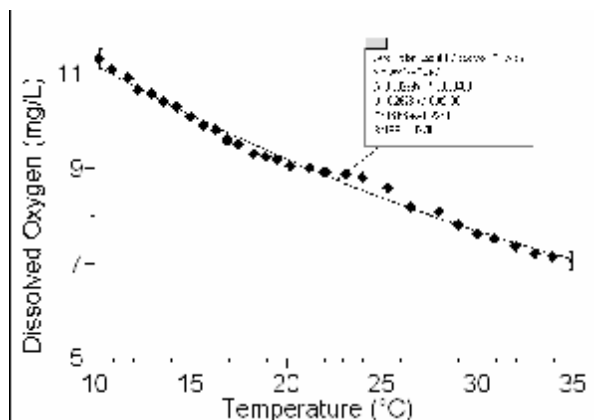

Figure 2: Saturated Dissolved Oxygen vs. Temperature Data
- If, however, the solution was cooled to 10°C and continually stirred so it remained saturated by dissolving additional oxygen, the temperature-compensated probe would give a reading of 11.35 mg/L—the value shown in Figure 2. **Note:** Temperature compensation *does not mean* that the reading for a saturated solution will be the same at two different temperatures—the two solutions have different concentrations of dissolved oxygen, and the probe reading should reflect this difference.